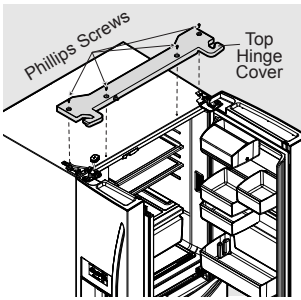

Figure 1
1. Remove screws from top hinge cover and lift up. See Figure 1.